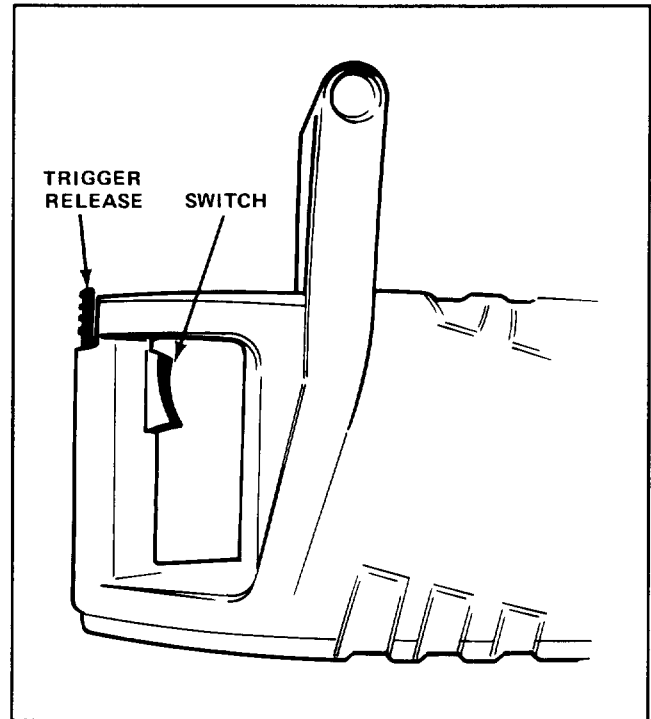

Figure 12
3. Balance the trimmer in one hand using the U-shaped handle. Operate the trigger release and the switch with the other hand (Fig. 12).